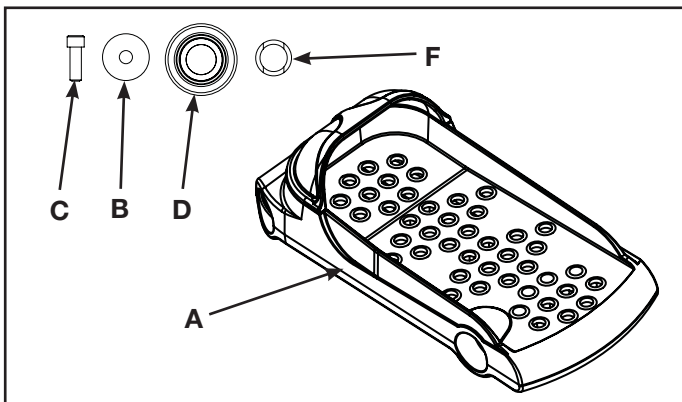

Figure 1 (right foot assembly)
2. Verify you received the following (see Figure 1):
- A. Right foot plate assembly (1), **610AK002** (this kit)
- B. Flat washer (4), **HS307602**
- C. SHCS .250-20 x .75 (2), **HX622815**
- D. Spacer (2), **PL-17279**
- F. Wave washer (2), **HS427100**